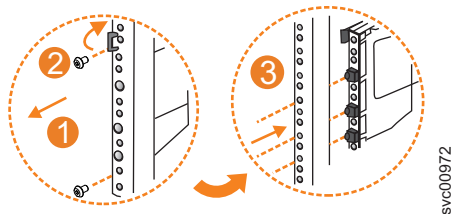

Figure 129. Remove the rail assembly from the front frame bracket
1. Remove the two screws that attach the outer rail section to the front bracket assembly, as shown in Figure 129.
2. Remove the rail section by pulling it away from the front bracket, as shown in Figure 129.